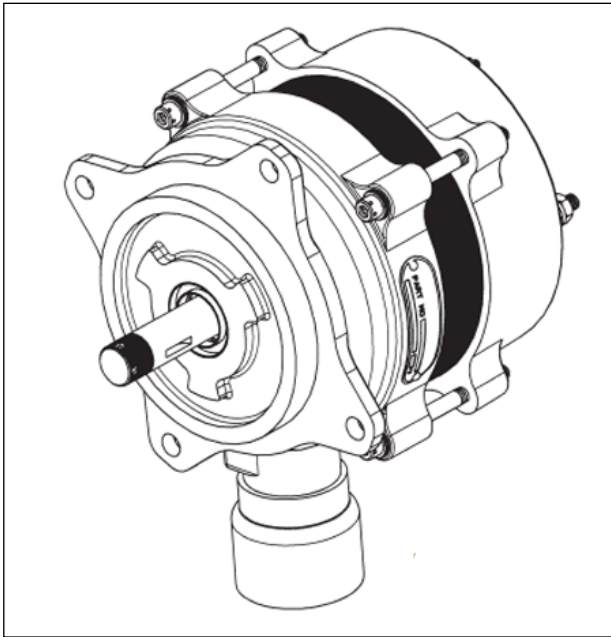

Figure 2.1 Typical Front View
- (1) Hartzell Engine Tech (HET) small frame, gear and belt driven alternators have been designed and constructed to provide extended periods of trouble-free operation with a minimum amount of maintenance. They are intended to withstand the vibration and extreme temperature changes encountered in aircraft applications. Basic features are identified in Fig. 2.1 thru 2.22 below.